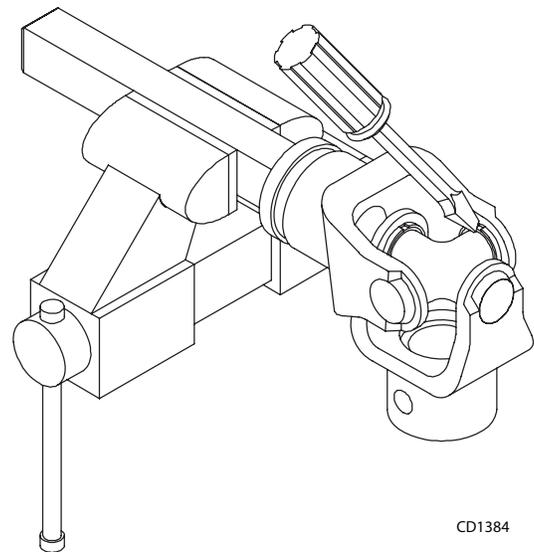

Figure 16
1. Remove snap rings from inside or outside of yokes in four locations. (Figure 16 only shows the style with internal snap rings.)